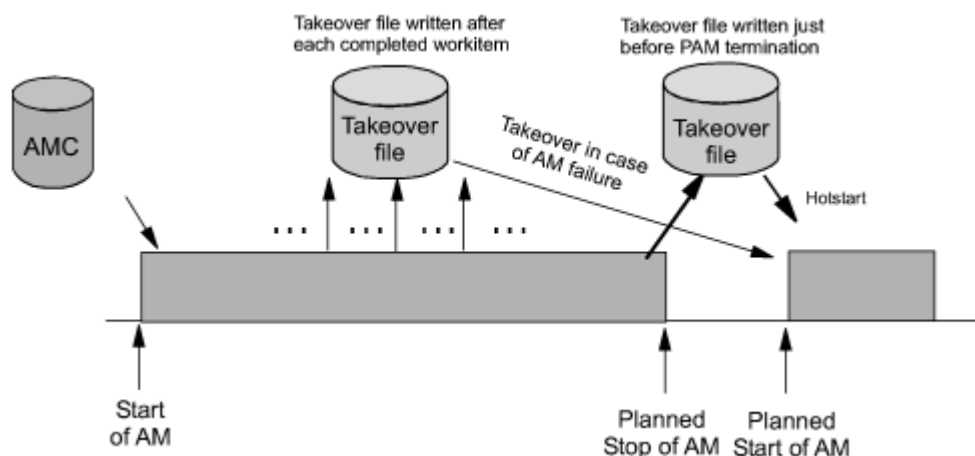

Figure 3. Using Only the Takeover File for Status Backup
Figure 3 on page 30 illustrates the timeline from the start of the automation manager (AM) through to its termination for the following cases: